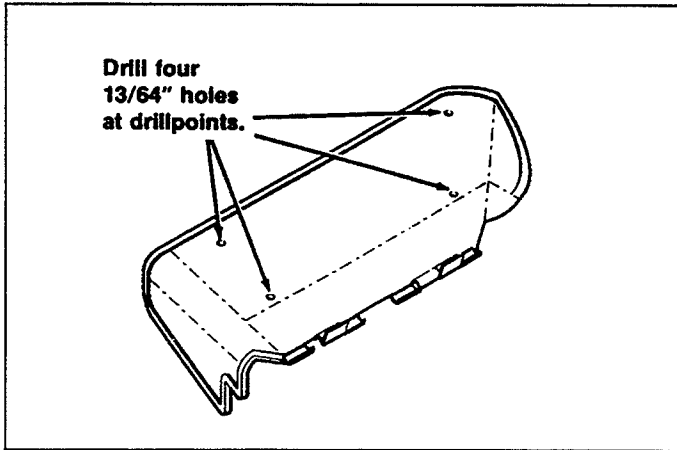

Figure 6.
12. See figure 6. Turn deflector over and locate the drillpoints. Drill four 13/64" holes. Install deflector to new support and secure with screws and nuts as shown in figure 1.